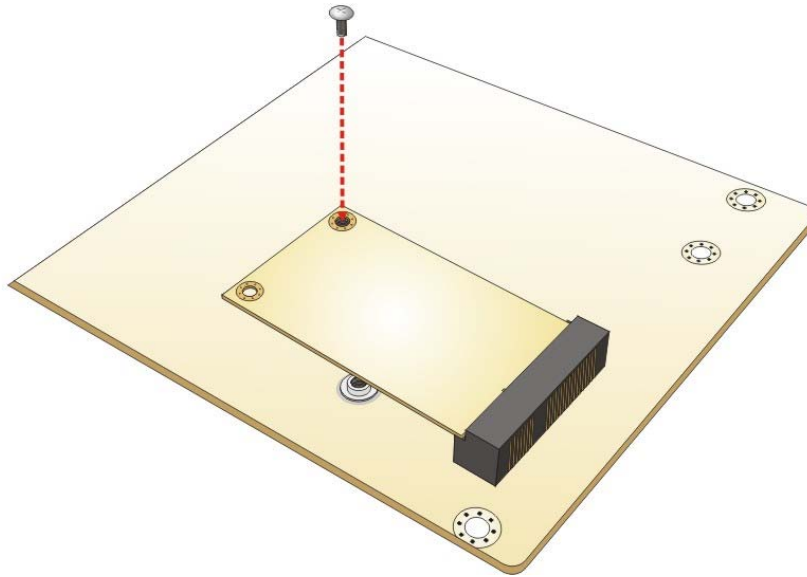

Figure 4-4: Securing the Full-size PCIe Mini Card
Step 4: Secure the full-size PCIe Mini card with the retention screw previously removed (**Figure 4-4**).